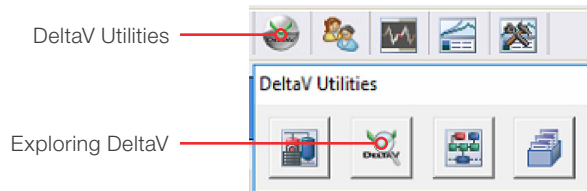

Figure 1.7. Exploring DeltaV button.
2. From the ProPlus station select **DeltaV Utilities** from the top toolbar, and then select **Exploring DeltaV** from the **DeltaV Utilities** window (Figure 1.7).